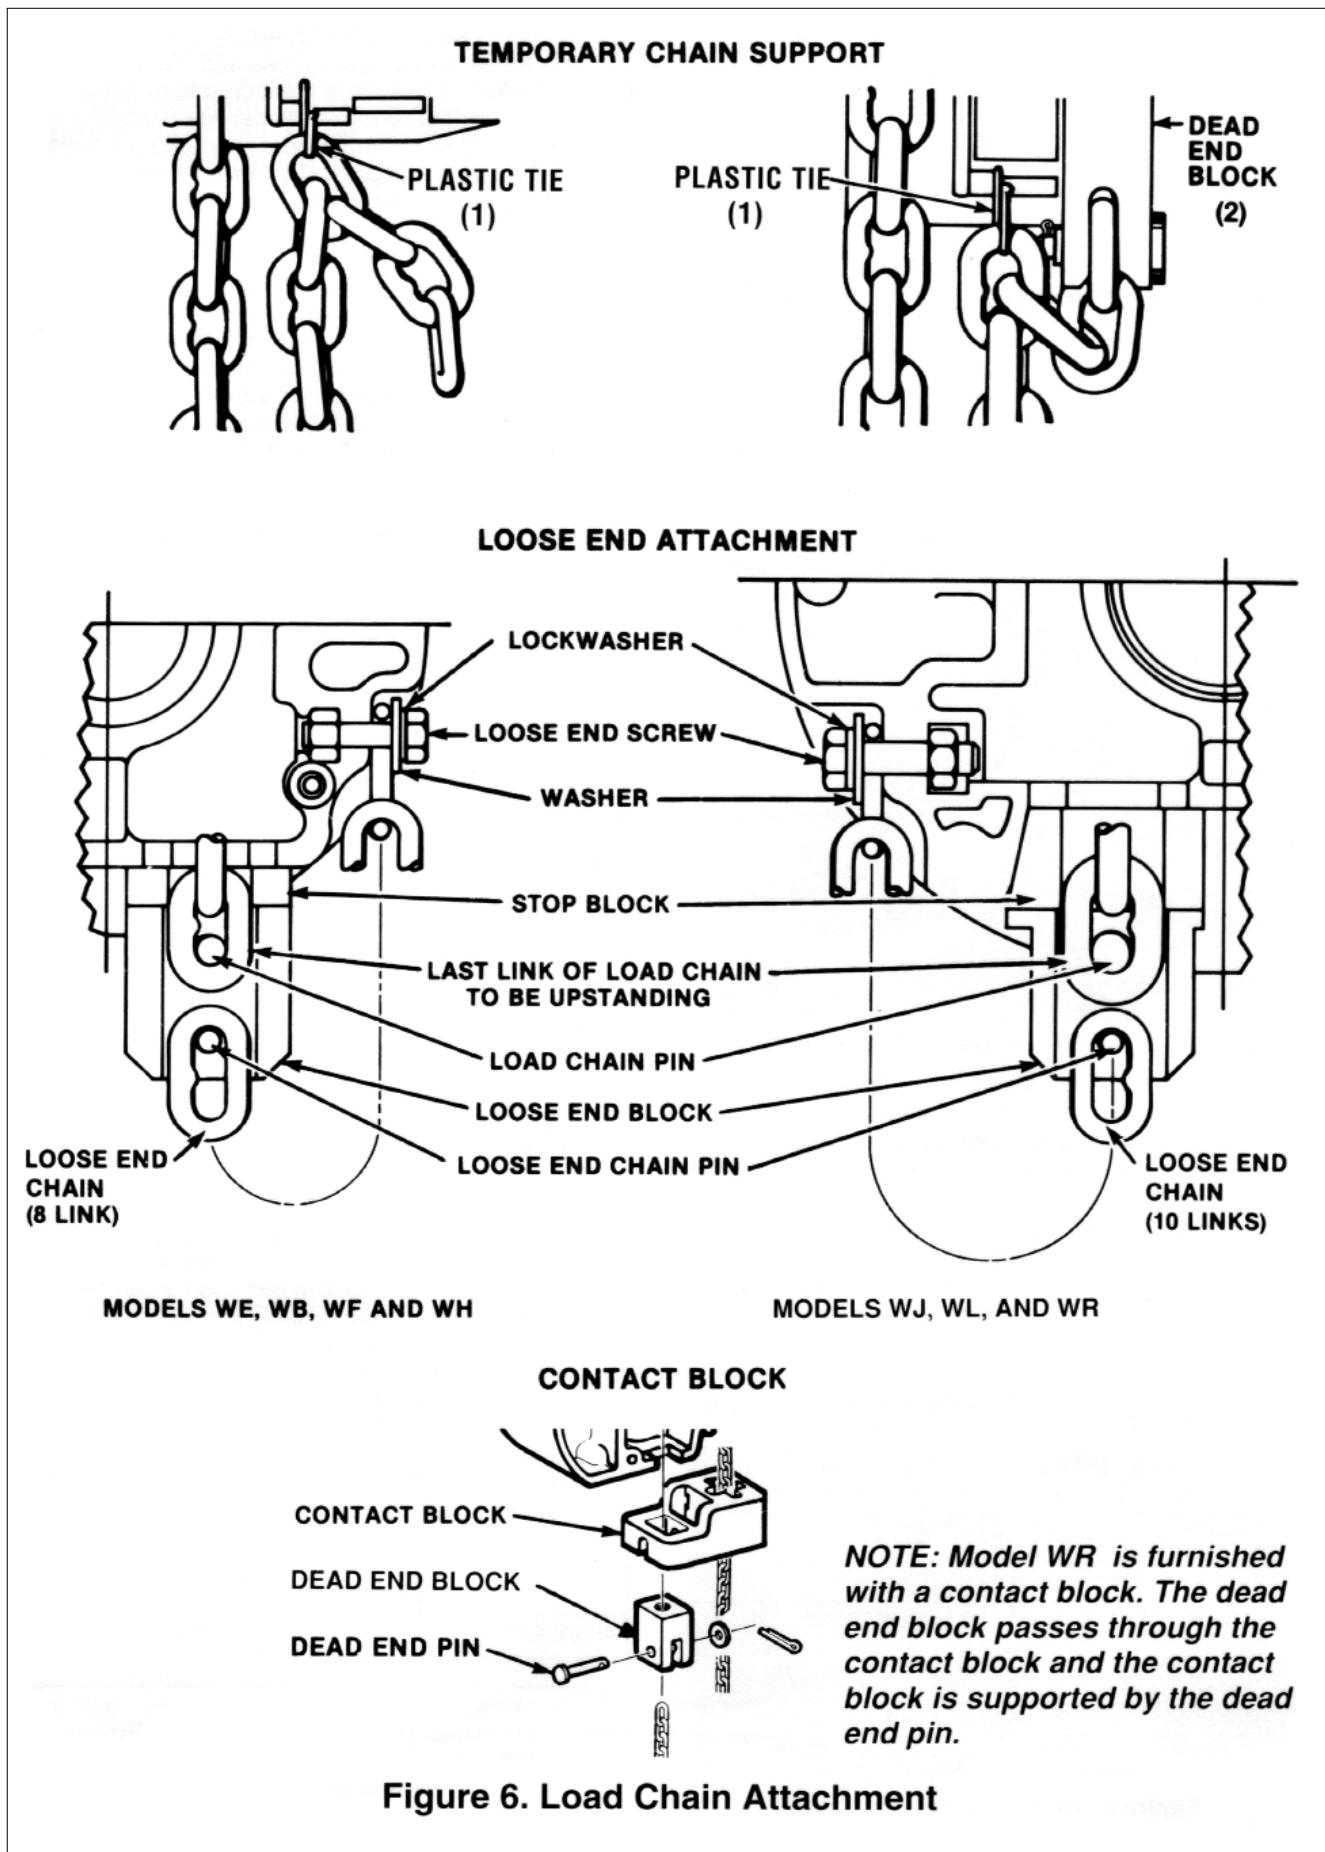

Figure 6. Load Chain Attachment
2. Place the suspension in the recess on top of hoist. On double chain hoist, the dead end block should project through the bottom of hoist with the pin hole and slot aligned to the underside of hoist as shown in Figure 6. It may be necessary to lift the bolt head from the hex recess in the suspension adapter, turn and reseat it, to obtain this alignment. DO NOT CHANGE THE POSITION OF THE DEAD END BLOCK ON THE BOLT. The pin hole should clear the hoist frame by not more than 1/4" on Models WE and WH and 7/16" on Model WR.
2. The hoist is shipped with the dead end of the load chain temporarily positioned a few links from the end by a plastic tie (1) as shown in Figure 6. Do not remove this plastic tie until the chain is secured.
3. On Models WE and WH, insert the last link of the load chain into the dead end block (2) and secure it with the dead end pin, washer and cotter pin furnished with the suspension. Remove the plastic tie (1) by cutting with a pair of electrical pliers.